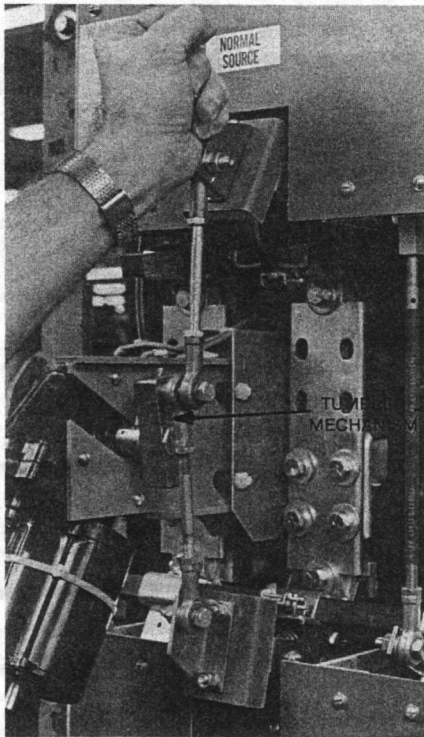

FIGURE 1
2. MANUAL OPERATOR KNOB (100A THROUGH 1600A SWITCHES) - (See Figures 1 & 2) Place one hand on the manual operator handle and firmly push up or pull down as necessary to transfer the switch to the opposite position. NOTE: It may be necessary to rotate the tumbler mechanism slightly so that the operating arm pivots past the on-center position.